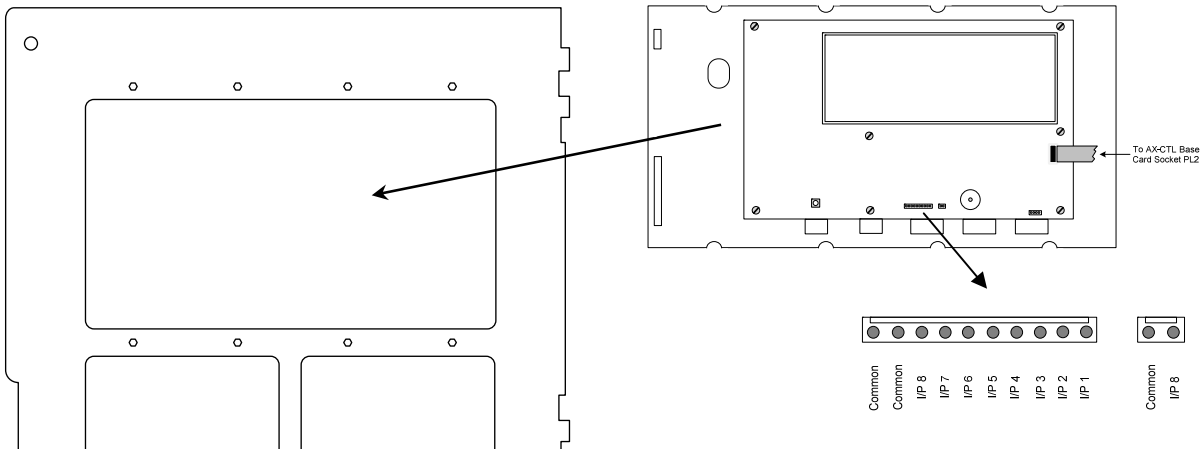

Figure 20 - AX-DSP Installation and Inputs
On the back of the AX-DSP alphanumeric graphical display is a 10-pin and 2-pin (duplicated common and input 8) header, providing eight (8) programmable switch inputs, which can be utilized for special application monitoring and control functions. Switch inputs can be programmed to monitor normally open or normal closed contacts depending upon installation need (see figure 20).
- ⊘ Unplug the flat ribbon cable attached to the AX-CTL base card and remove the seven (7) screws holding the AX-DSP alphanumeric graphical display to its front metal faceplate (see figure 20).